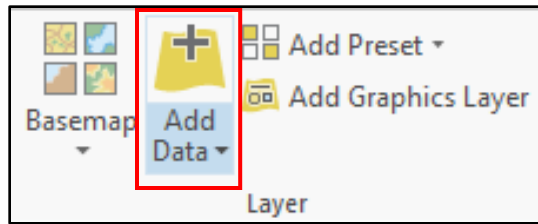

Figure 27. Add Data button in ArcGIS Pro.
- To georeference a plan in ArcGIS Pro, it must be saved as a TIFF file (.tif). Files saved as a PDF can be opened in a program such as Adobe or Bluebeam and “saved as” a TIFF file. Then in ArcGIS Pro, select “Add Data” under the Map tab (Figure 27, below) and navigate to the TIFF file.